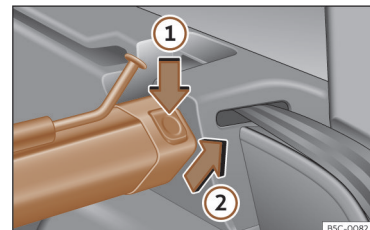

Fig. 133 In the luggage compartment: removing the net partition.
- Press the left or right release catch »» Fig. 133 in the direction of the arrow ①.
- Remove the casing from the support in the direction of the arrow »» Fig. 133 ②.
- Press the casing into the left and right supports in the opposite direction to the arrow »» Fig. 133 ② until it engages.